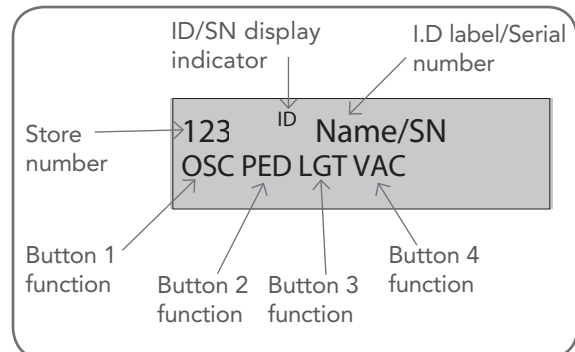

Fig 10.1
DCB-05V2 can store up to thirty (30) transmitters in its memory. Each transmitter can be allocated an alpha-numeric ID label up to eleven (11) characters in length and each button can be assigned to one of several control functions. The settings for a transmitter are represented in **(Fig. 10.1)**. It shows the transmitter's store number, ID label or serial number and the functions assigned to each of its four buttons. To toggle between ID/SN display, press UP/DOWN with the cursor on the ID/SN indicator. The procedures below code, delete, replace, edit and copy transmitter records.